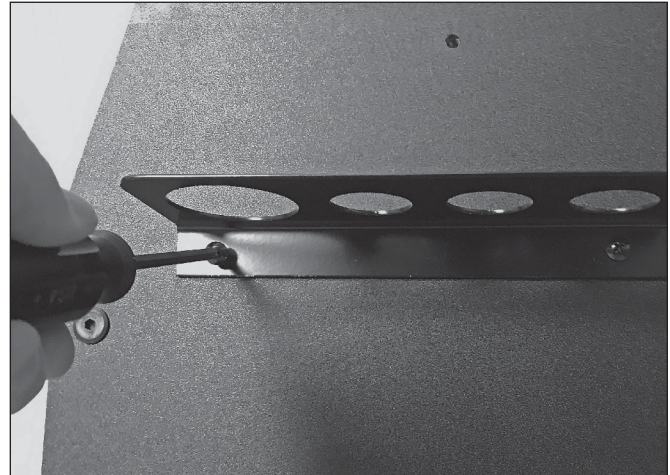

Figure 8. Install the eyepiece rack on the left side panel with the two small wood screws provided.
5. Install the eyepiece rack with the two small wood screws provided in the predrilled holes on the left side panel. You will need a Phillips screwdriver to tighten the screws (**Figure 8**).